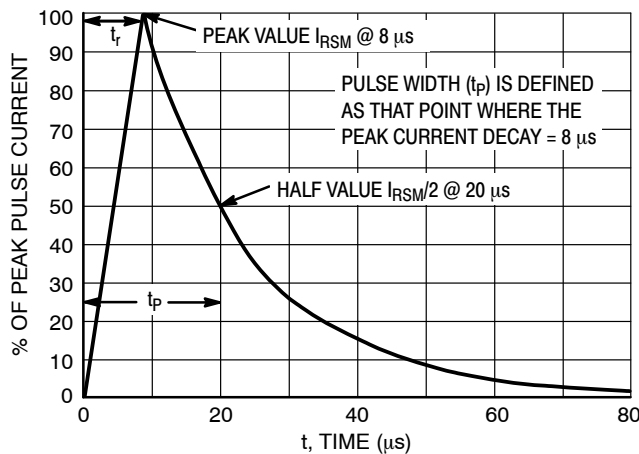

Figure 10. 8 x 20  $\mu\text{s}$  Pulse Waveform
- Non-repetitive current pulse at TA = 25°C, per IEC61000-4-5 waveform, See Figure 10.